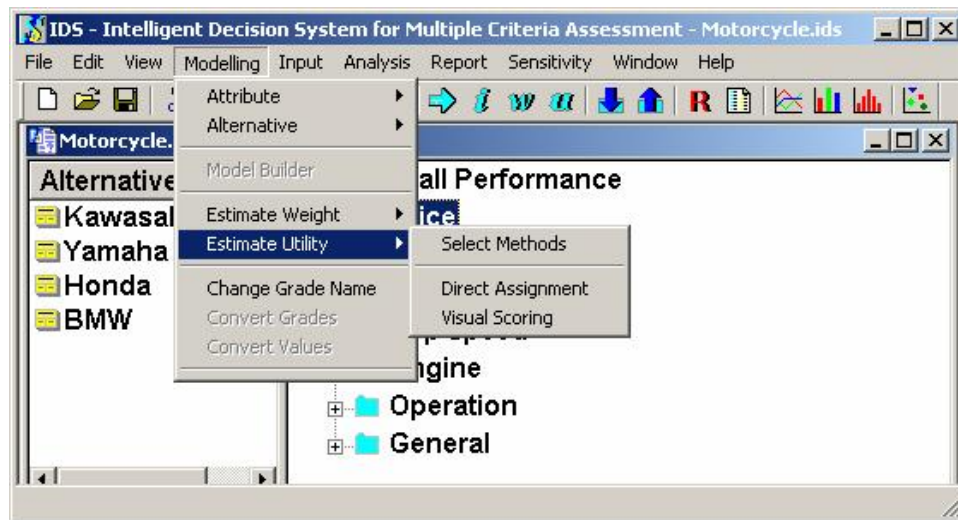

Figure 2.12 Use the Modelling Menu to Assign Attribute Utility
- From the *Modelling* menu (**Figure 2.12**) select *Estimate Utility* then *Direct Assignment* or *Visual Scoring* to activate an IDS Dialog window similar to **Figure 2.13** if *Direct Assignment* is selected or **Figure 2.14** if *Visual Scoring* is selected